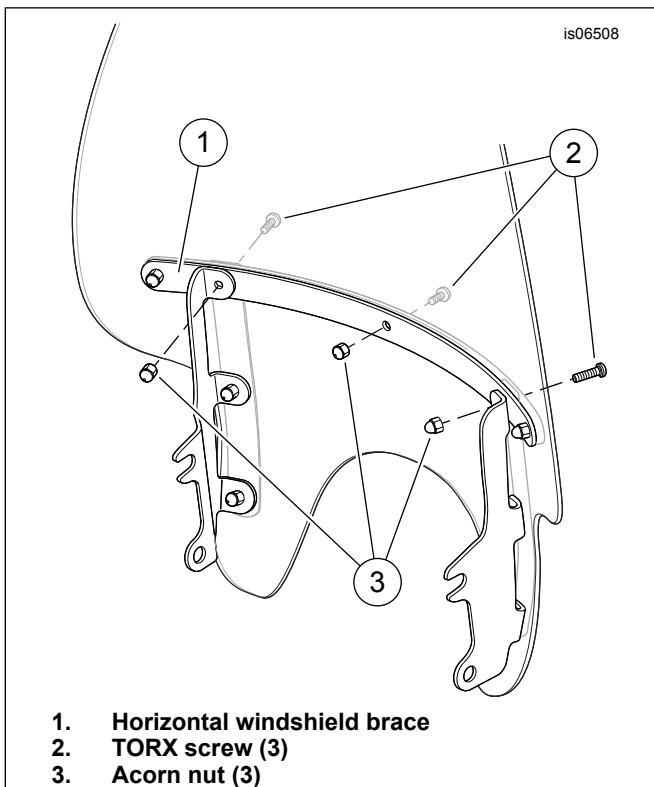

Figure 3. Remove Windshield Upper Fasteners (Typical)
2. See Figure 3. Holding the acorn nuts (3) on the rear side, remove the three **innermost** TORX screws (2) retaining the horizontal windshield brace (1). Keep the acorn nuts for installation. Discard the screws.